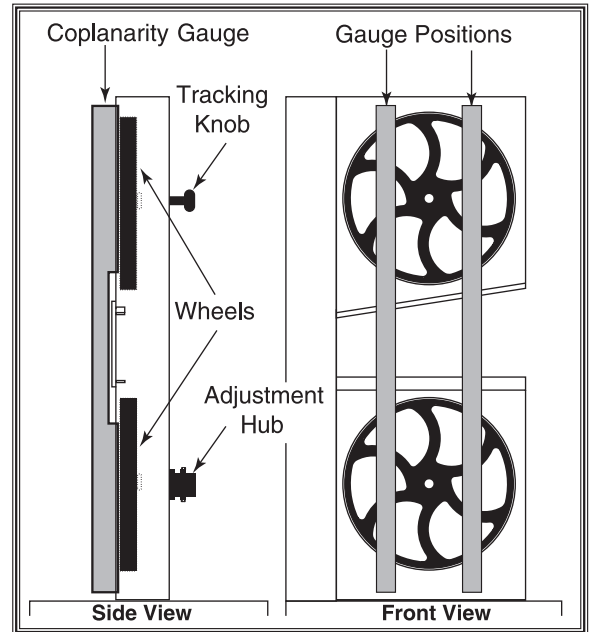

Figure 47. Checking for coplanarity.
When you use the Coplanarity Gauge, the gauge must contact the top and bottom of both wheels at the same time for the wheels to be coplanar (see **Figure 47**).
5. Place your gauge against both wheels in the positions shown in **Figure 47** on **Page 36** and determine if an alignment problem exists. The gauge must be flat against both wheels in both left and right positions (see **Figure 48** for assistance).